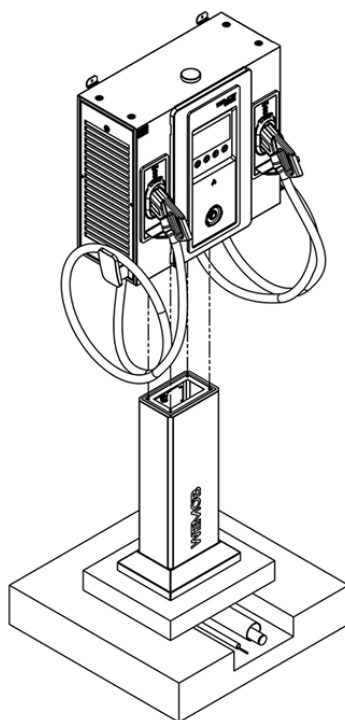

Figure 3.11: Example of mounting the WEMOB-STATION (60/80 kW) on the totem
After the totem is mounted to the concrete base, the charging station must be mounted. This should be done through the four (4) mounting points on the station, using four (4) M6 hex screws. The recommended tightening torque is 10 Nm to ensure a secure attachment for both the charging station and the operator, as shown in Figure 3.11 on page 3-10.